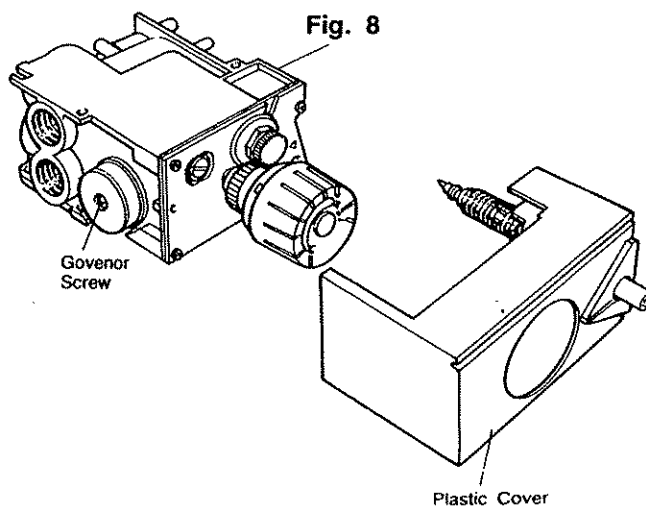

Fig. 8
3. Should it be necessary to adjust the manifold pressure the governor adjustment screw is located at the left hand side of the control (see fig. 8). To adjust pressure, first remove brown plastic cover from front of control taking care not to damage the Piezo igniter cable.